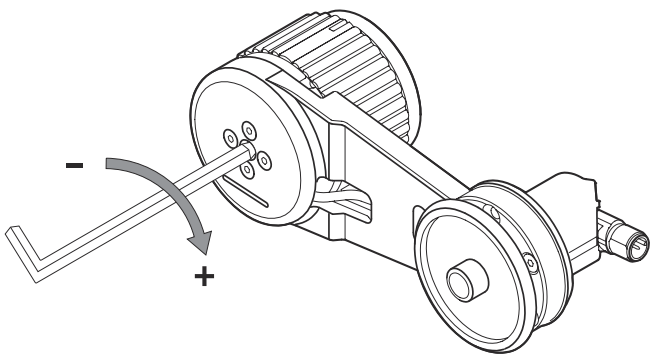

Figure 9: Loosen the locker to set the zero position
- ▶ Afterwards the MWS120 device can be mounted to the adaptor plate, and secured with the center screw (figure 9).
- ▶ The adaptor plate needs to be loosened from the device locker, without loosening it completely, by turning the allen wrench CCW in figure 9.
① Mounting bracket
5.2 Setting the zero position for clockwise (CW) use
- ▶ Loosen the central screw (figure 9) to produce a gap between adaptor plate and the device arm, to ensure the arm is free to rotate with the adaptor plate attached.
① Indicator
② Zero position of scale
③ 6 scale lines. Each scale line represents 4 N increment.
④ Push out Locker
- ▶ To secure the position, tighten the central screw to fix the measuring arm onto the adaptor plate (figure 9).
① Indicator B at 7.5 N setting
- ▶ Unscrew the adaptor plate (figure 9) and remove the whole device.